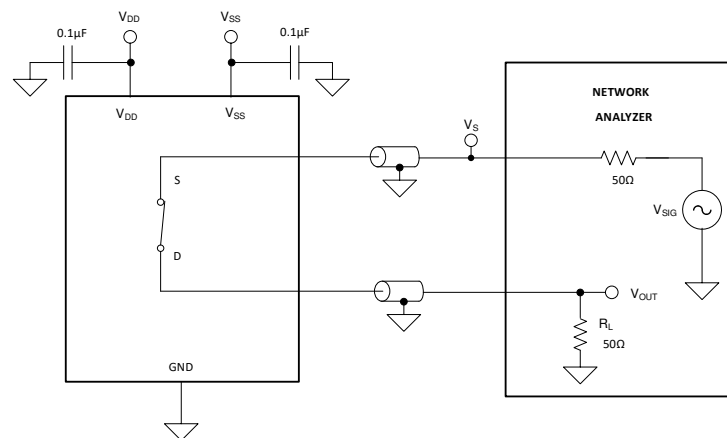

Figure 6-10. Bandwidth Measurement Setup
Bandwidth is defined as the range of frequencies that are attenuated by less than 3 dB when the input is applied to the source pin (Sx) of an on-channel, and the output is measured at the drain pin (D) of the device. Figure 6-10 shows the setup used to measure bandwidth.